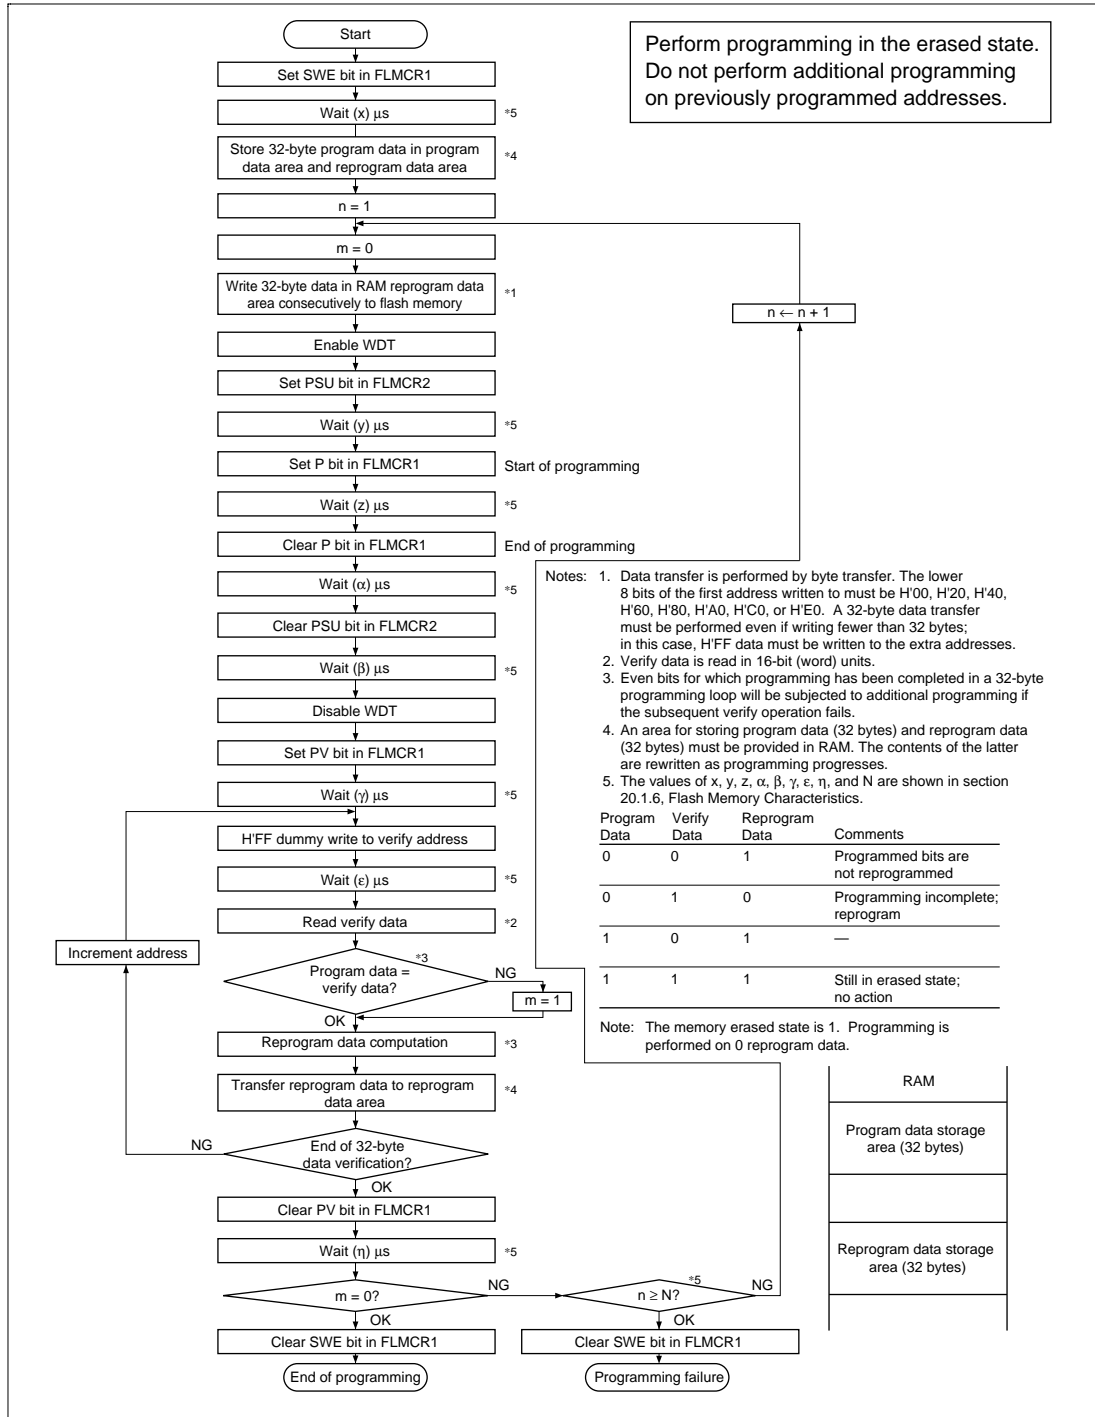

Figure 17.21 Program/Program-Verify Flowchart
Follow the procedure shown in the program/program-verify flowchart in figure 17.21 to write data or programs to flash memory. Performing program operations according to this flowchart will enable data or programs to be written to flash memory without subjecting the device to voltage stress or sacrificing program data reliability. Programming should be carried out 32 bytes at a time.
After the elapse of a given programming time, the programming mode is exited (the P bit in FLMCR1 is cleared to 0, then the PSU bit in FLMCR2 is cleared to 0 at least $(\alpha) \mu\text{s}$ later). Next, the watchdog timer is cleared after the elapse of $(y + z + \alpha + \beta) \mu\text{s}$ or more, and the operating mode is switched to program-verify mode by setting the PV bit in FLMCR1. Before reading in program-verify mode, a dummy write of H'FF data should be made to the addresses to be read. The dummy write should be executed after the elapse of $(\gamma) \mu\text{s}$ or more. When the flash memory is read in this state (verify data is read in 16-bit units), the data at the latched address is read. Wait at least $(\epsilon) \mu\text{s}$ after the dummy write before performing this read operation. Next, the originally written data is compared with the verify data, and reprogram data is computed (see figure 17.21) and transferred to the reprogram data area. After 32 bytes of data have been verified, exit program-verify mode, wait for at least $(\eta) \mu\text{s}$, then clear the SWE bit in FLMCR1 to 0. If reprogramming is necessary, set program mode again, and repeat the program/program-verify sequence as before. However, ensure that the program/program-verify sequence is not repeated more than (N) times on the same bits.